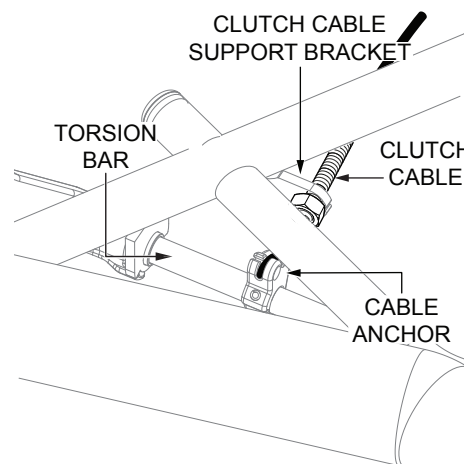

Figure 12. Clutch Cable Attachment (Torsion Bar Anchor and Support Bracket)
- Make sure the clutch cable is attached to the torsion bar cable anchor and clutch cable support bracket (Figure 12).